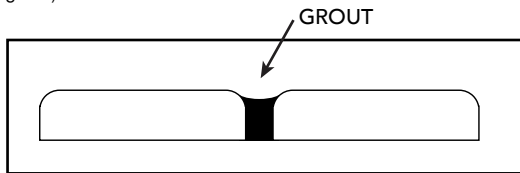

Fig. 11 - The finished grout line width is wider than the space between the tiles.
- The desired grout line width should be determined prior to starting the flooring installation. It is important to understand that the finished grout line will be  $\frac{1}{16}$ " to  $\frac{3}{32}$ " wider than the space between the tiles, since the grout will extend onto part of the radius along the top edge of the tile (Fig. 11).